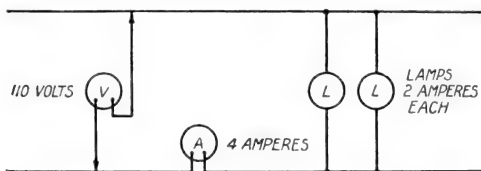

Fig. 16. Two Lamps Connected in Parallel on the Same Circuit
**Problem 2.** In Fig. 16 another lamp like the one in the previous sketch is added to the circuit. This lamp draws also 2 amperes.